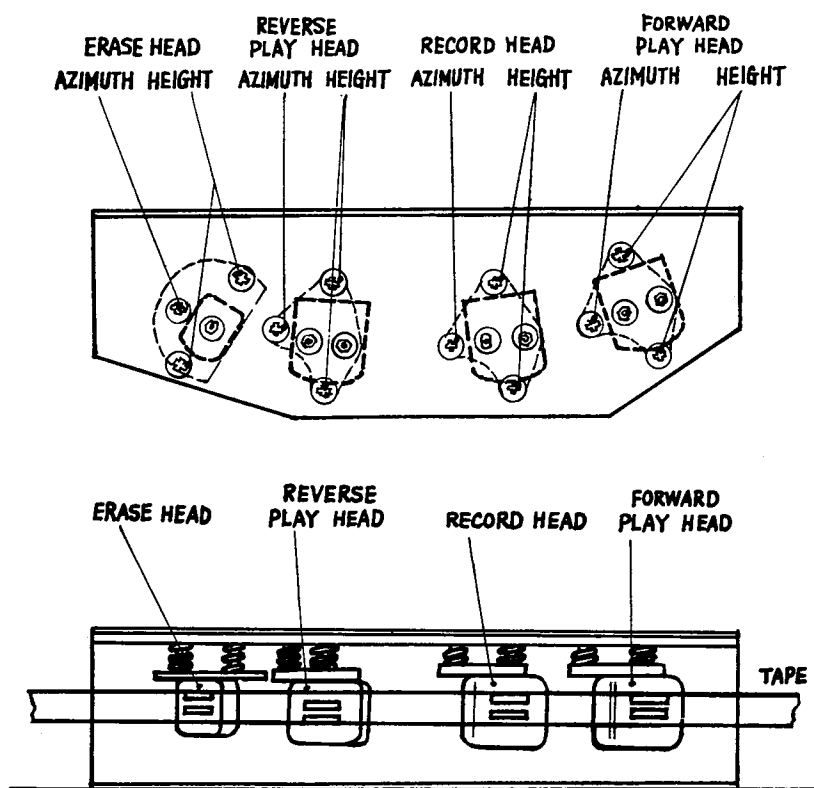

FIG. 8 HEAD ALIGNMENTS
HEAD HEIGHT ALIGNMENTS (Fig. 8)
5. Play 15 kc tone and turn azimuth adjustment screw (Fig. 8) of forward playback head until maximum meter reading is obtained.
7. Turn azimuth adjustment screw (Fig. 8) of reverse playback head until maximum meter reading is obtained.
2. While recording a 15 KHz signal on the tape, set LINE INPUT level control so meter reads 15 ~ 20 db below normal operating level (-15 ~ 20 VU on VU meter), and then adjust the record head azimuth screw (Fig. 8) for maximum output.